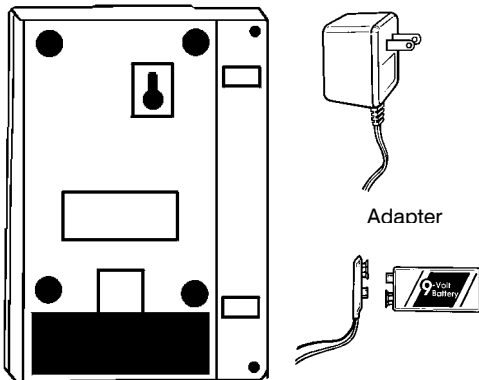

Figure 1
- (1) Install a 9-volt Alkaline battery, Fig. 1— or use optional power adapter. (See specs).